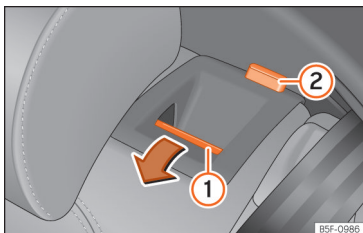

Fig. 93 Rear seat: folding down the backrest.
- Press the unlock button »» **Fig. 93** ① forwards and at the same time fold the backrest down. The rear seat backrest is not engaged when the red marking of the button ② is visible.